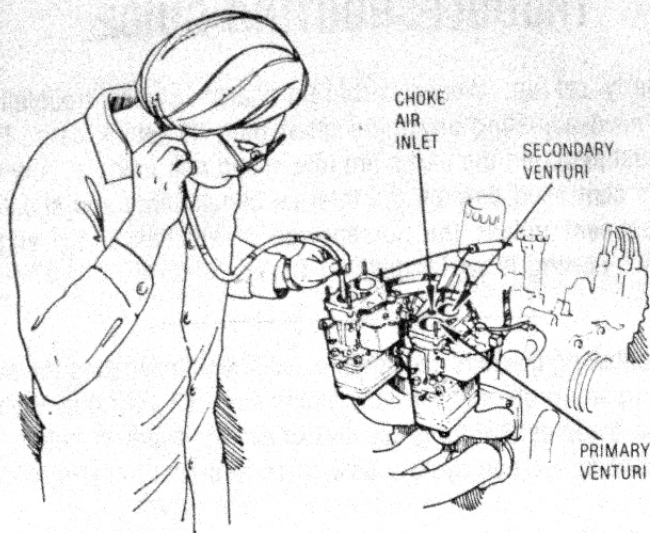

FIGURE 3
7. Using a uni-syn synchronizing tool (available at most import car parts stores), measure the air flow through the primary venturi of each carb and adjust the idle so that at *idle speed* the carbs are flowing equally. If a uni-syn is not available, you can listen to each carb using an 18" length of tubing as shown in Figure 3. The carbs are synchronized when the hissing is equal.